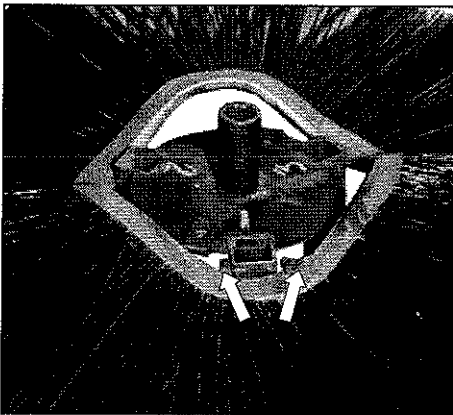

figure 27
- b. Slide the first section onto the core with the drive pins on both sides of tube 1. Make sure that drive pins (figure 27) face up.